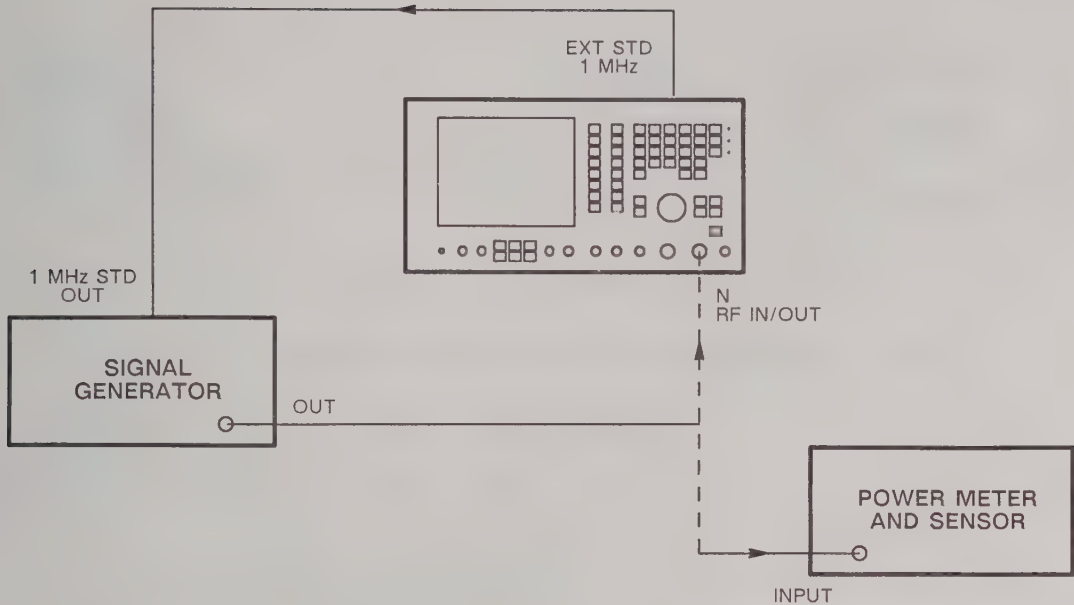

Fig. 6-6 Test equipment connections for modulation meter input sensitivity
- (1) Connect the signal generator 1 MHz standard output to the EXT STD 1 MHz socket. Connect the power meter through its sensor to the signal generator variable output. See Fig. 6-6.